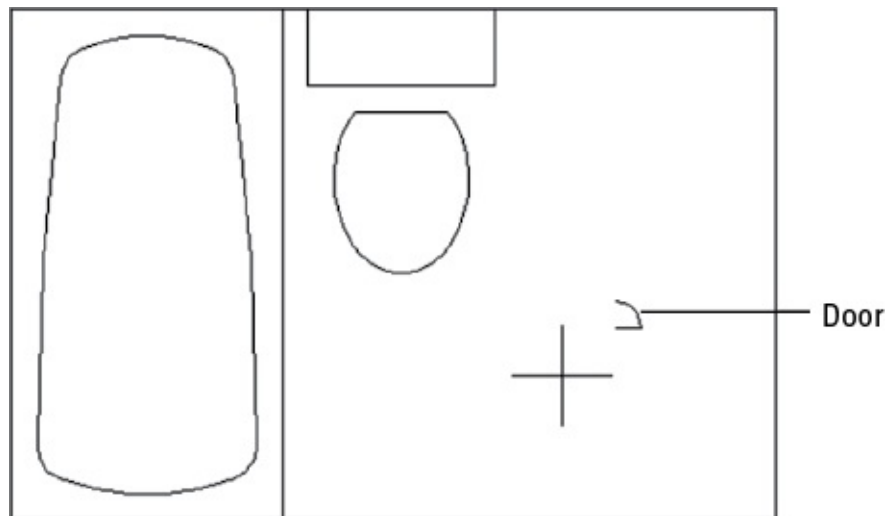

FIGURE 4.5 The door drawing being inserted in the Bath file
6. When you return to the Insert dialog box, make sure the Specify On-Screen option is checked in the Insertion Point, Scale, and Rotation groups, and then click OK. As you move the cursor around, notice that the door appears above and to the right of the cursor intersection, as shown in Figure 4.5.